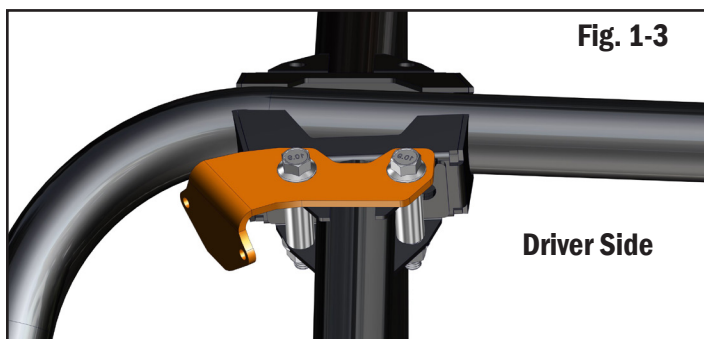

Fig. 1-3
- Repeat for opposite side. See Fig. 1-3 to 1-6